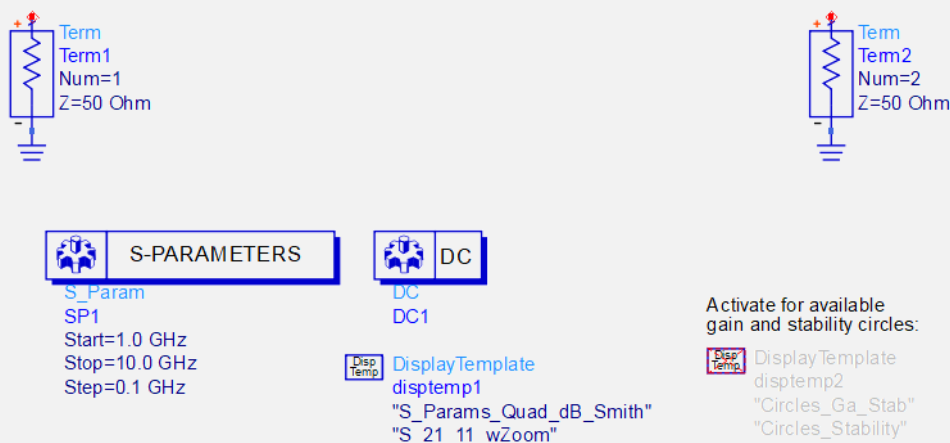

Figure 31. Template components
- Clicking OK will load a ghost image, which is a collection of components and controllers. This is shown in Figure 31. Place these components on your schematic, so that it does not overlap the amplifier design.